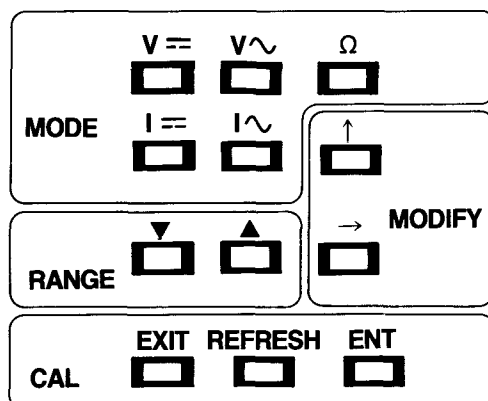

Fig. 5.2 Calibration Overlay
3. Fit the calibration overlay (Fig. 5.2).